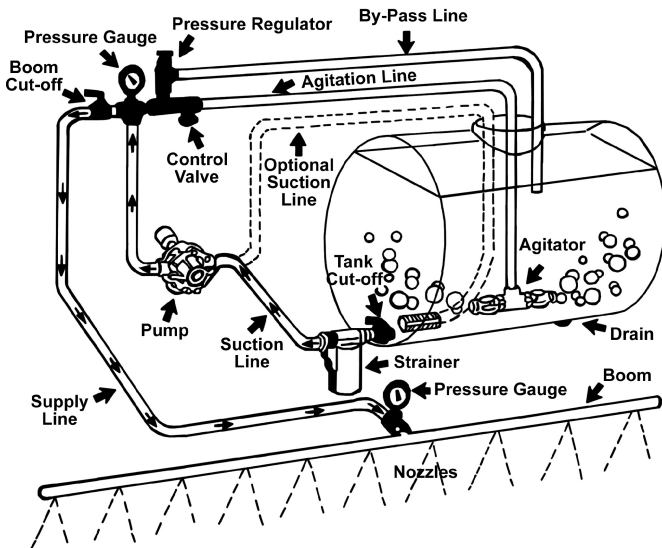

Figure 4. Components of a properly designed weed control sprayer.
Orchard herbicide sprayers must be able to efficiently place herbicides on the orchard floor with minimal risk to the trees. Successful orchard herbicide application requires: (1) appropriate herbicide selection, (2) proper timing of applications, and (3) correctly adjusted, calibrated and operated spray equipment. Boom sprayers are the predominant orchard herbicide sprayers. They operate at low spray pressure and volume. Sprayers can be mounted on or pulled behind a tractor. Figure 4 depicts a well-conceived sprayer design.
Provide strainers in the locations shown in Figure 4. In-line strainers can be provided as optional equipment. Strainers are especially important where wettable powders are used. In-line and nozzle strainers are generally 50- to 100-mesh screens.